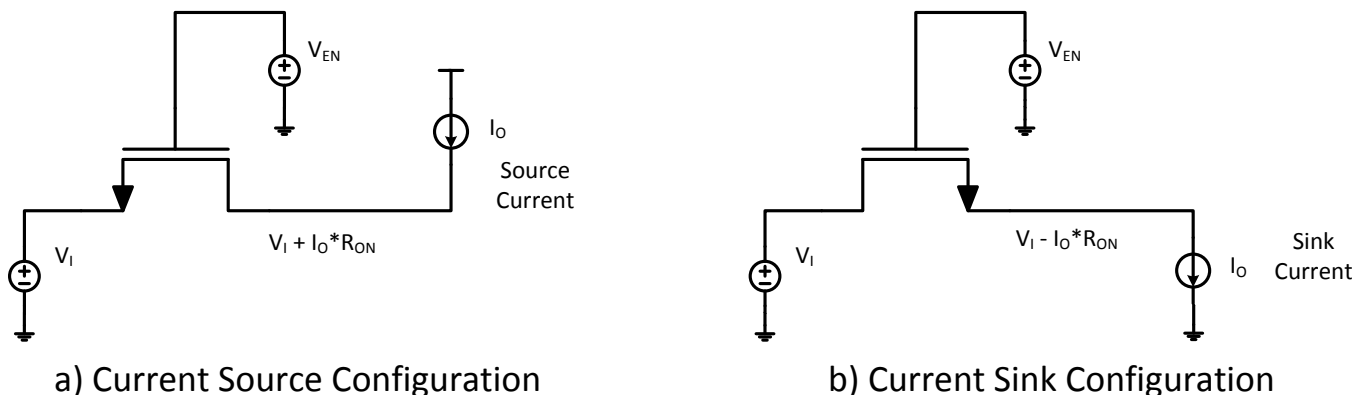

Figure 4. Current Source and Current Sink Configurations for R_{ON} Measurements
(1) All typical values are at $T_A = 25^\circ\text{C}$.
(2) Measured by the voltage drop between the SCL1 and SCL2, or SDA1 and SDA2 terminals, at the indicated current through the switch. Minimum ON-state resistance is determined by the lowest voltage of the two terminals.
(3) Measured in current sink configuration only (See Figure 4)
over recommended operating ambient temperature range, $EN = 3.3$ V, $V_{IH} = 3.3$ V, $V_{IL} = 0$, $V_M = 1.15$ V (unless otherwise noted) (see Figure 4).
over recommended operating ambient temperature range, $EN = 2.5$ V, $V_{IH} = 3.3$ V, $V_{IL} = 0$, $V_M = 0.75$ V (unless otherwise noted) (see Figure 4).
over recommended operating ambient temperature range, $EN = 3.3$ V, $V_{IH} = 2.3$ V, $V_{IL} = 0$, $V_T = 3.3$ V, $V_M = 1.15$ V, $R_L = 300$ Ω (unless otherwise noted) (see Figure 4).
over recommended operating ambient temperature range, EN = 2.5 V, $V_{IH} = 2.3$ V, $V_{IL} = 0$, $V_T = 3.3$ V, $V_M = 0.75$ V, $R_L = 300$ Ω (unless otherwise noted) (see Figure 4).